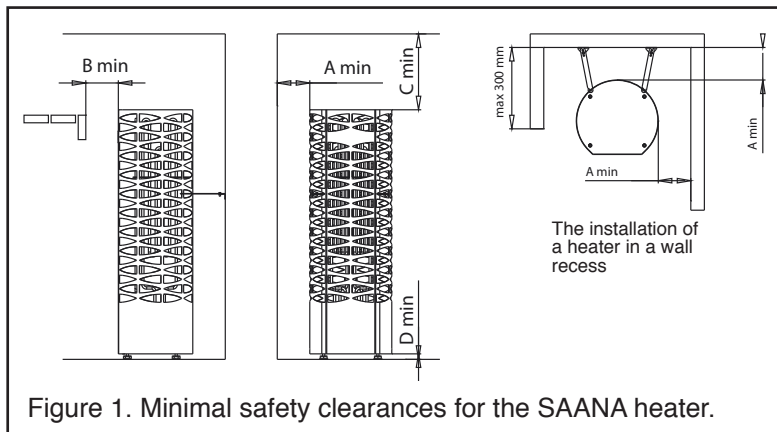

Figure 1. Minimal safety clearances for the SAANA heater.
\*\*) See figure 1
- The heater can also be installed into a wall recess, see figure 1.